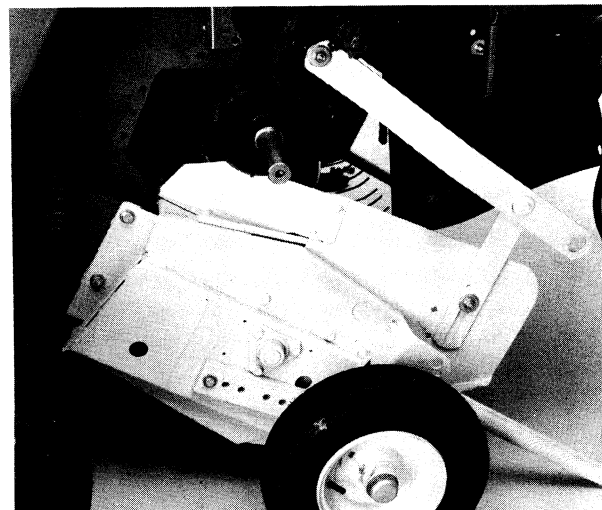

Figure 6-32
12. Remove the starter roll, as shown in Figure 6-32.